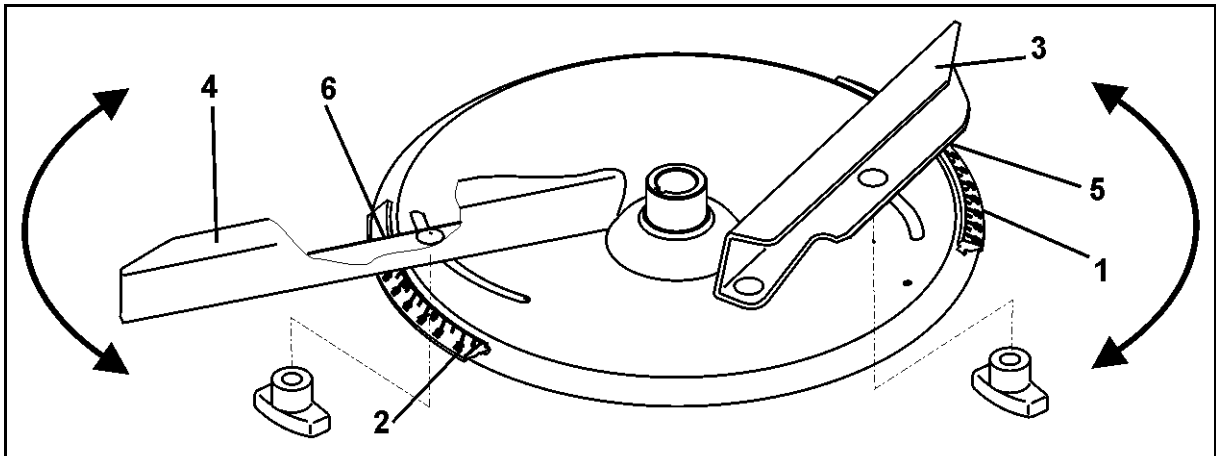

Fig. 56
Two different scales, designed so as to make it impossible to confuse them, are arranged on each spreader disc for precision setting of the individual spreading vane positions (Fig. 56/1 and Fig. 56/2).
- The shorter spreading vanes (Fig. 56/3) are assigned the scale (Fig. 56/1) with values from 5 to 28; the longer spreading vanes (Fig. 56/4) are assigned the scale (Fig. 56/2) with the values from 35 to 55.
- For the short spreading vane (Fig. 56/3), read off the set value on the read-off edge (Fig. 56/5).
- For the long spreading vane (Fig. 56/4), read off the set value on the read-off edge (Fig. 56/6).
- Swivelling the spreading vanes to a higher scale value (Fig. 56/1 or Fig. 56/2) increases the working width.